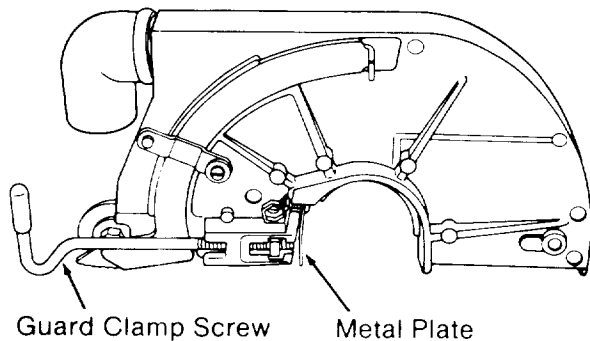

Fig. 83
1. Loosen the *guard clamp screw* until it no longer touches the *metal plate*. (Figure 83)